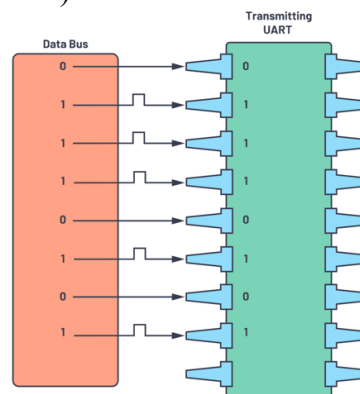

Figure-2: Data bus to the transmitting UART
- First: The transmitting UART receives data in parallel from the data bus (Figure-2).